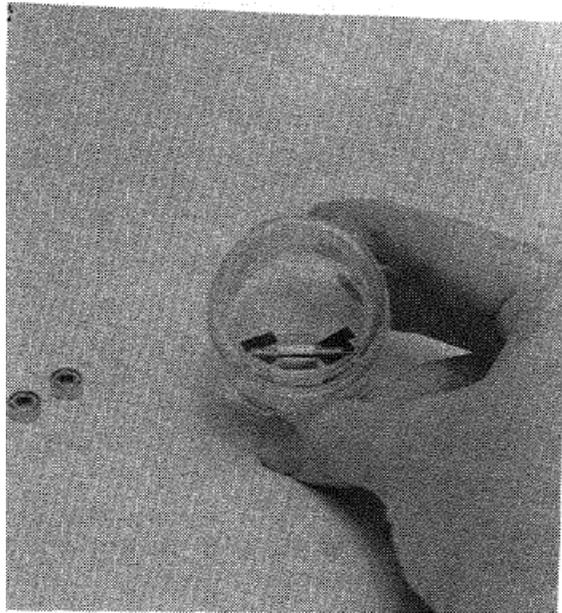

Figure 37. Soaking the rotor and carbon vanes
Step 6. Place the rotor and carbon vanes in a beaker of grease solvent (Figure 37).